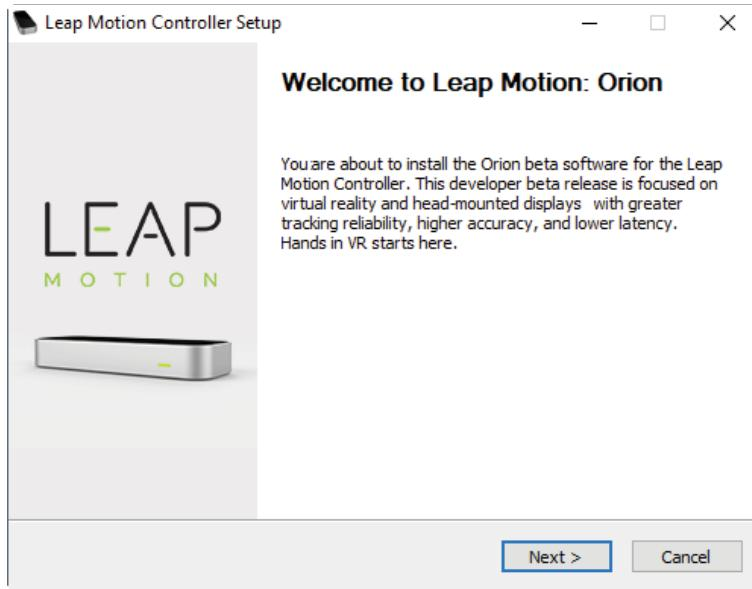

Figure 5.106 The Leap Motion Installation Interface
**Step 2** Install the Leap Motion driver software by following the on-screen instructions, as shown in Figure 5.106.